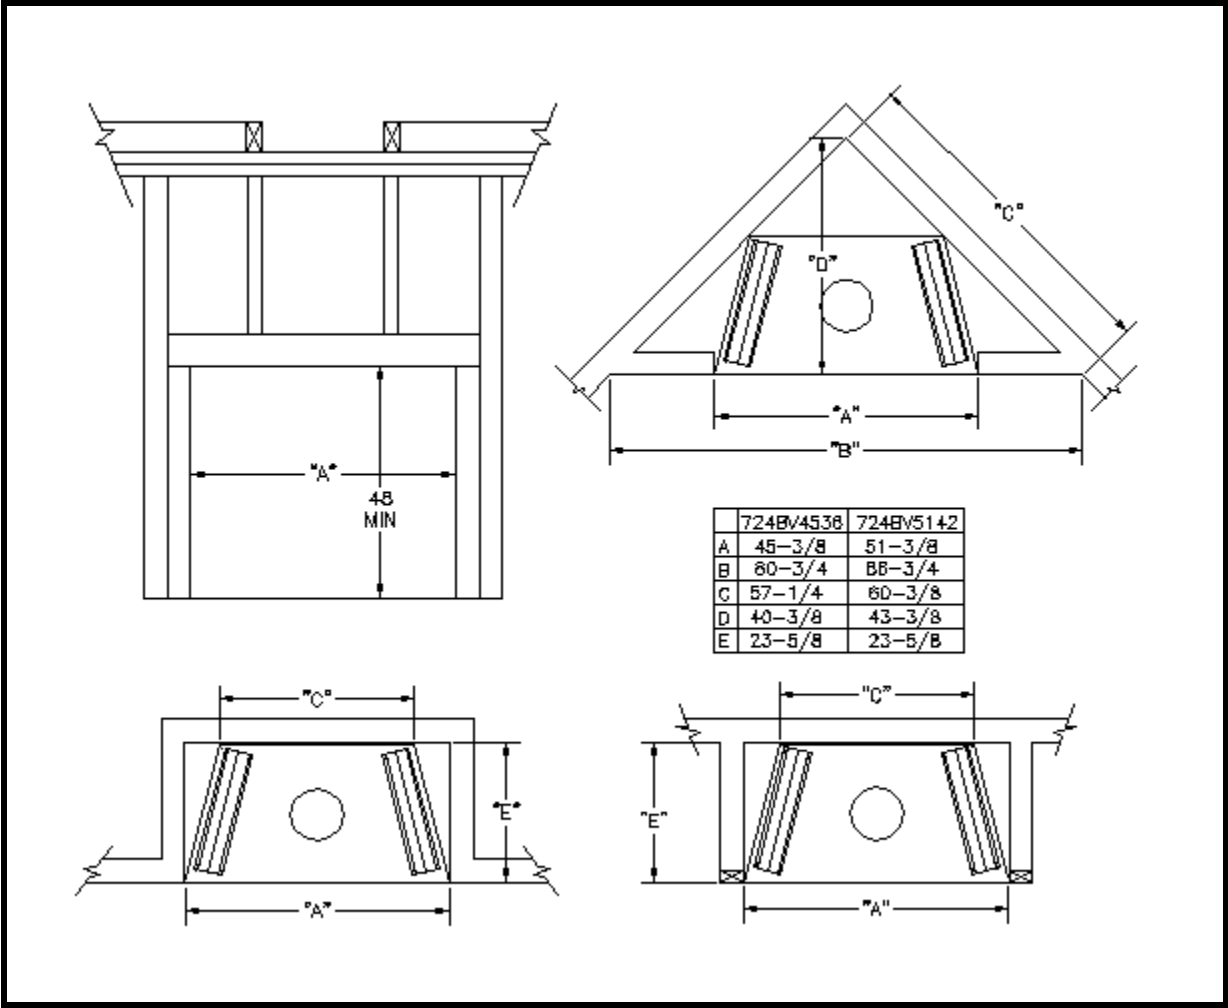

Figure 2: Fireplace Locations and Minimum Clearances Requirements
- This fireplace may be installed along a wall, across a corner, or use an exterior chase. Refer to Figure 2 on page 6 for suggested locations.